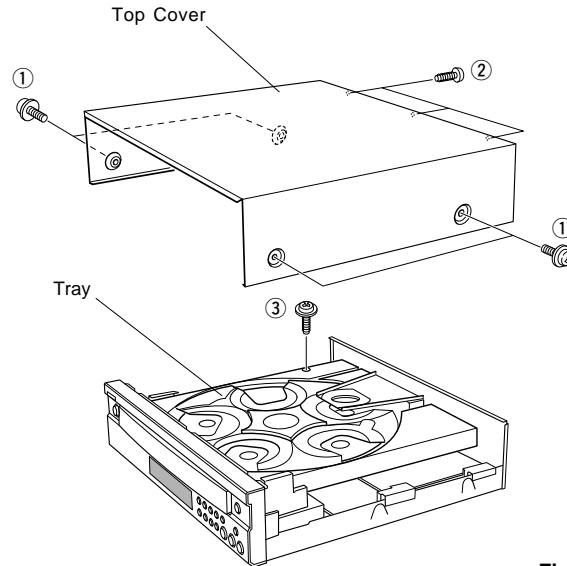

Fig. 1
- Remove 4 screws ( ① ) and also 3 screws ( ② ) in Fig. 1.
- Remove 1 screw ( ③ ) in Fig. 1.